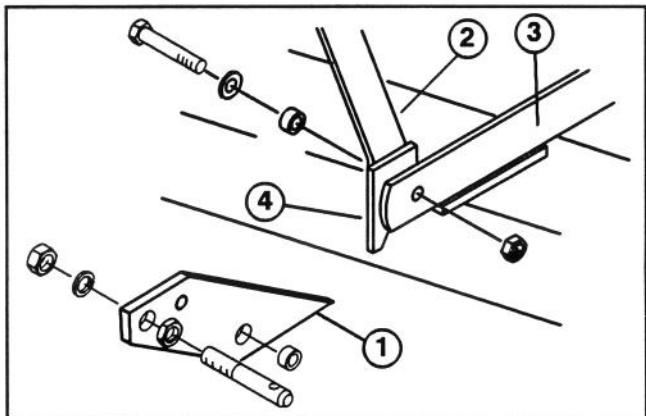

Figure 1
1. Remove capscrews, washers, sleeves and locknuts securing mounting lugs to deck rails and deck brackets at bottom end of each offset bar (Fig. 1). Remove mounting lugs but retain fasteners. Remove pins, nuts washers and sleeves from mounting lugs (Fig. 1).